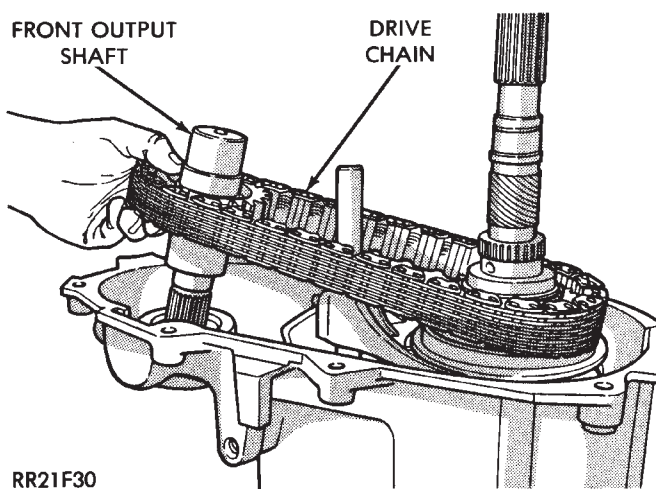

Fig. 53 Drive Chain And Front Output Shaft Installation
(37) Assemble and install output shaft and drive chain (Fig. 53). Lift mainshaft slightly to ease chain and shaft installation.